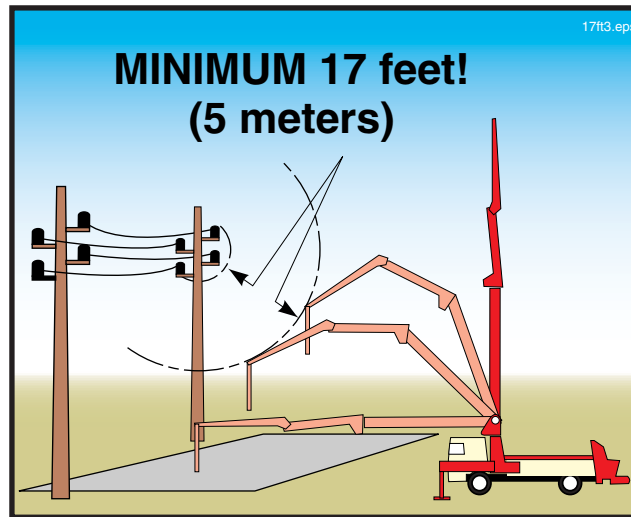

Figure 69
- 15.5 **⚠ DANGER** Electrocution hazard! If it is necessary to unfold the placing boom to do maintenance work, you must watch for overhead power lines. You must maintain a minimum of 17 ft. (5 meters) clearance between the power line and any part of the unit (see Figure 69).